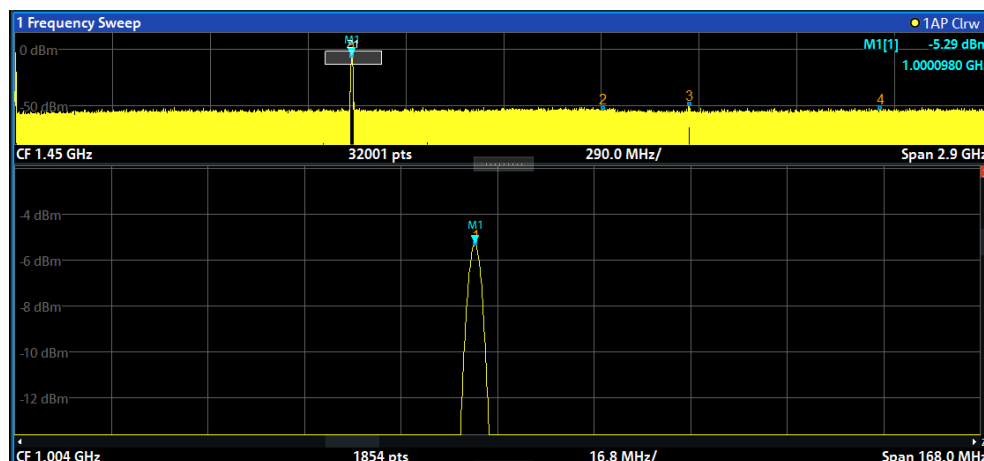

Figure 5-17: Zoomed peak with increased number of sweep points
3. In Figure 5-17, the enlarged peak is represented by a very thick trace. This is due to the insufficient number of sweep points. The missing sweep points for the zoomed display are interpolated, which provides poor results. To optimize the results, we will increase the number of sweep points from the default 1001 to 32001.